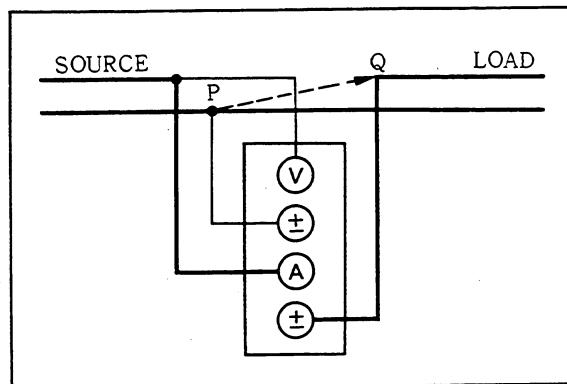

Figure 2-10.
(2) When Current Terminal is Connected to Load Side
For power measurement, the current terminal may be connected to the load side besides the wiring stated in (1) above. In this case, by changing the voltage connecting point from P to Q with the load kept connected as shown in Figure 2-10, the power measured by the instrument is the loss on the current terminal side. By deducting this value from the power measured when the voltage connecting point is at P, a true load power is obtained.